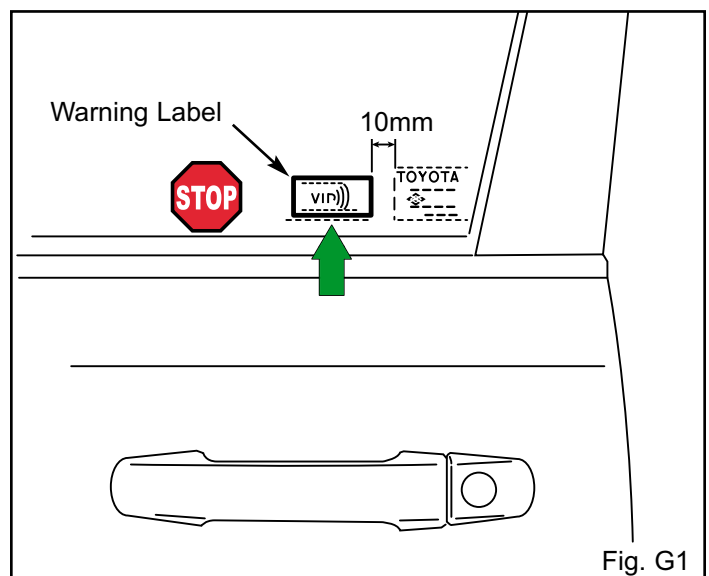

Fig. G1
1. Clean the inside surface of the front door windows. (Fig. G1)
2. Place the warning label on the inside surface of the front door window as shown. (Fig. G1)